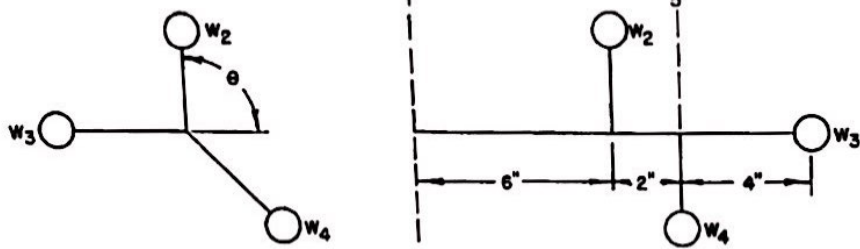

FIGURE P12-7
- †12-17 Figure P12-7 shows a system with three weights on a rotating shaft. $W_2 = 10 \text{ lb @ } 90^\circ$ at a 3-in radius, $W_3 = 10 \text{ lb @ } 180^\circ$ at a 4-in radius, and $W_3 = 8 \text{ lb @ } 315^\circ$ at a 4-in radius. Determine the magnitudes and angles of the balance weights needed to dynamically balance the system. The balance weight in plane 1 is placed at a radius of 4 in and in plane 5 of 3 in.
Solution: See Figure P12-7 and Mathcad file P1217.